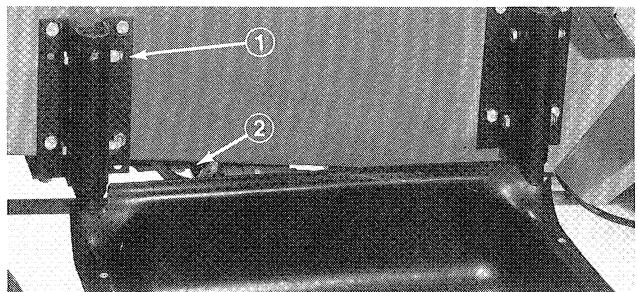

Figure 4
1. Mount lower support tube assembly to brackets with (4) 3/8-16x2-1/4" lg. capscrews and locknuts (Fig. 4).